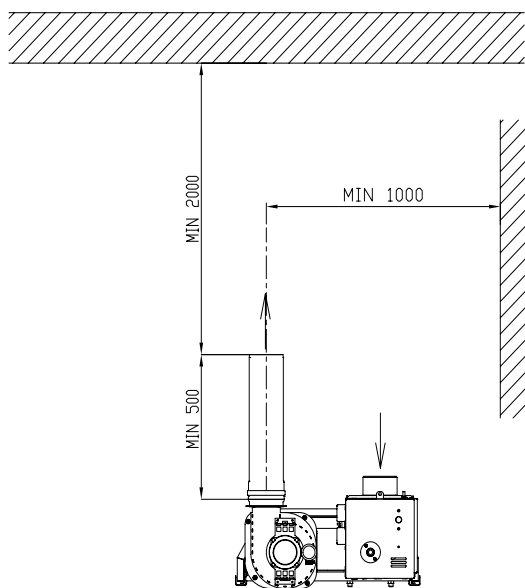

Fig. 28: Distances from the flue outlet of the infrared heater in version A2
8. If the heater is installed in version "A2", the minimum separation distances according to *Fig. 28*.